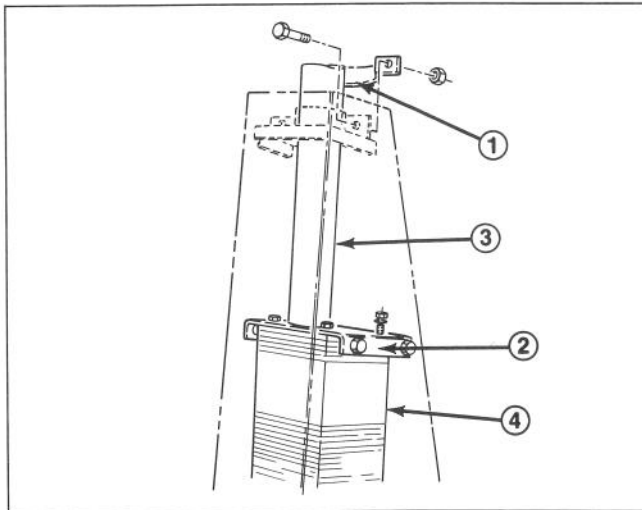

Figure 1
1. Loosen clamp half mounting screws securing steering post to tower (Fig. 1).
2. Slide steering post upward until valve mounting studs are positioned into mounting bracket (Fig. 1).